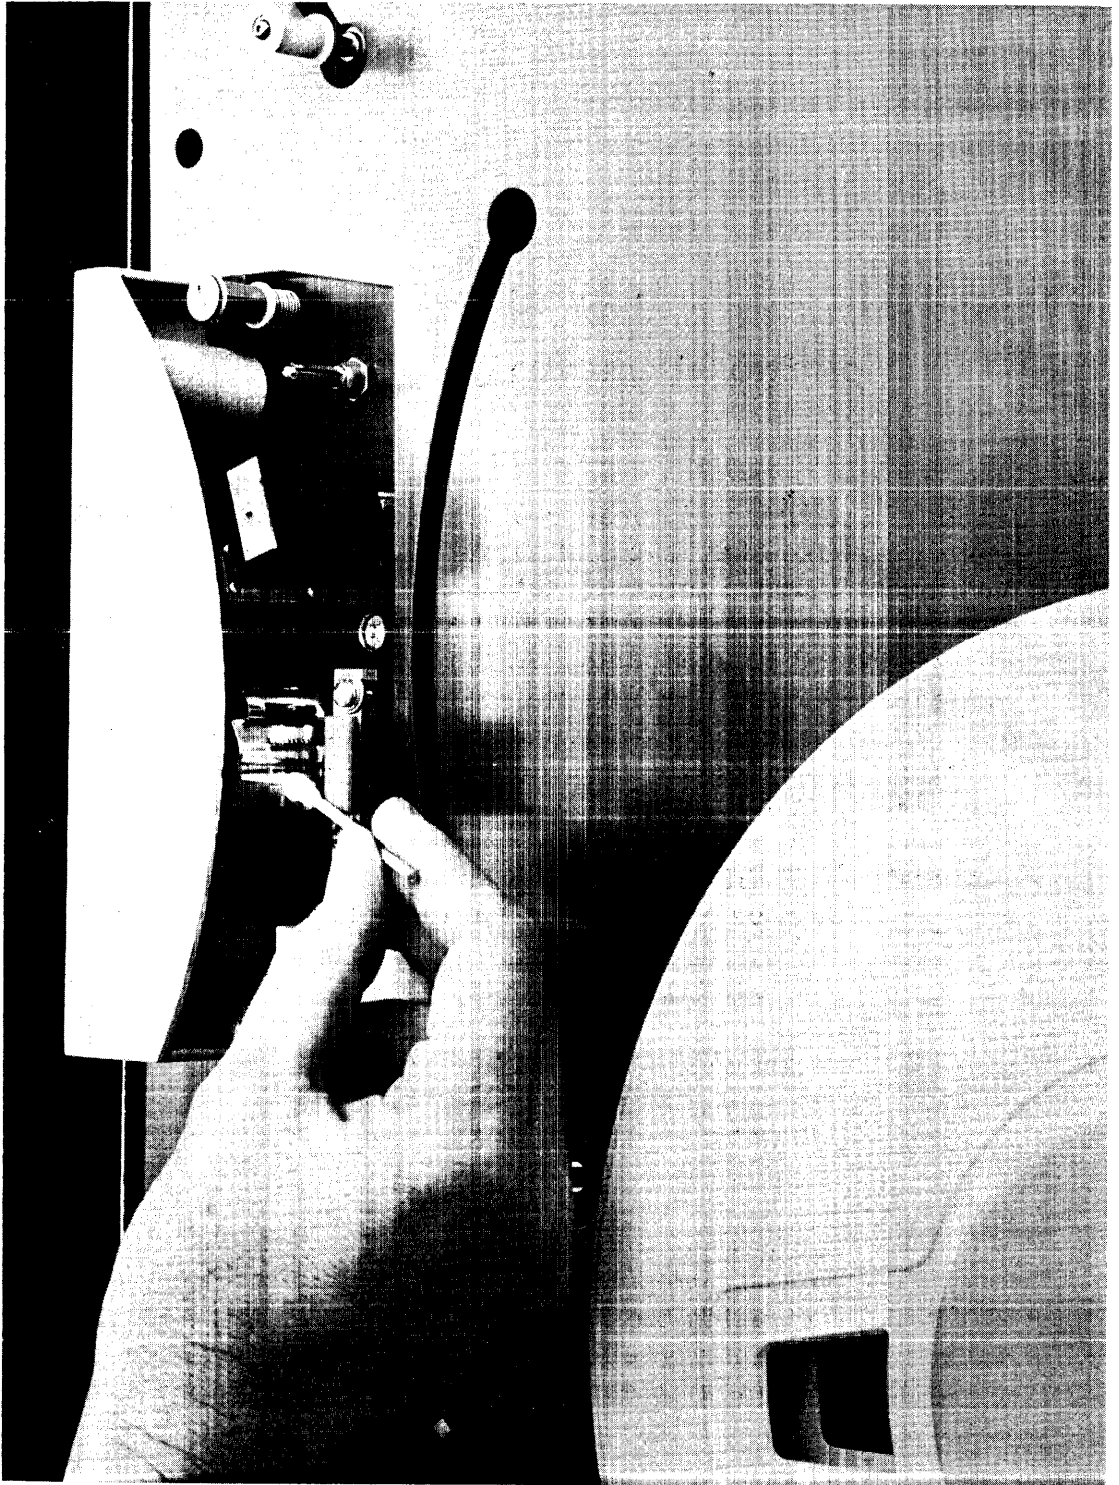

Figure 5. Cleaning the Read/Write Head Assembly
3. Moisten a soft, lint-free cloth or Q-tip applicator with isopropyl alcohol. After the head surfaces, including the surface of the erase head, have been carefully swabbed, they should be dried with a separate clean and lint-free cloth. See Figure 5.
5. Clean the head guides and head guide blocks, shown in Figure 5. The guide blocks are immediately in back of the guides. Dry all parts with a clean, lint-free cloth.